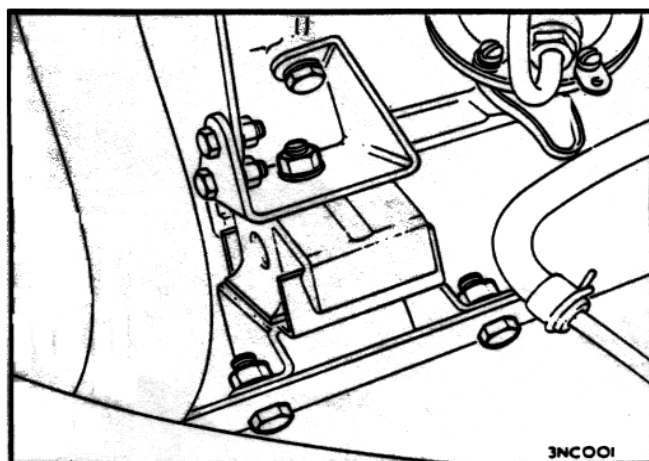

Fig. 2
14. Remove the bolts retaining the engine mounting brackets to the front plate and crankcase and detach the engine mounting assemblies (Fig. 2).